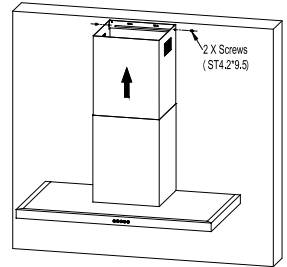

Fig.6
- Fix extension chimney. See Fig.6.